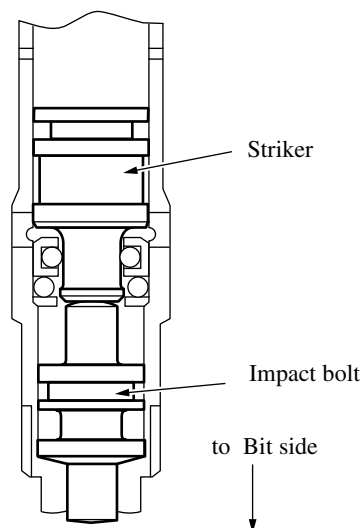

Fig. 19
5) Being careful of the attaching direction of Striker, press it into Tool holder. (See fig.19)